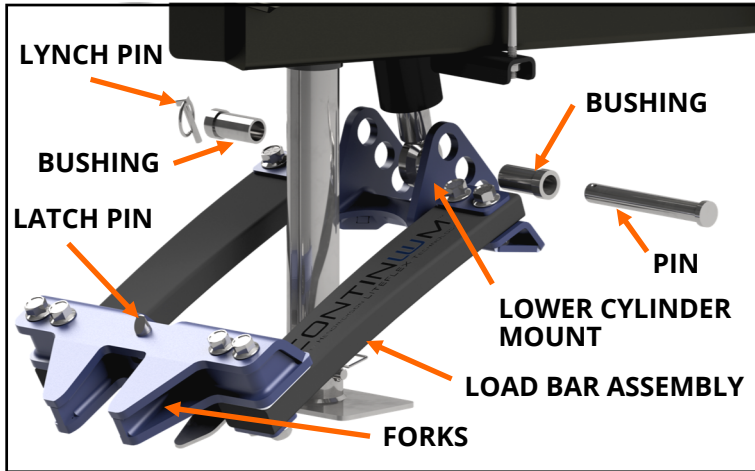

FIGURE F1: View of the load bar assembly under the trailer.
2. **Attach the load bars to the hydraulic cylinder.** Retrieve the load bar assembly. Remove the pin and bushings from the lower cylinder mount. Raise the trailer jack high enough that the load bar assembly can slide under it. Pin the hydraulic cylinder to the center hole in the lower cylinder mount using the removed pin and bushings, **see Figure F1.**